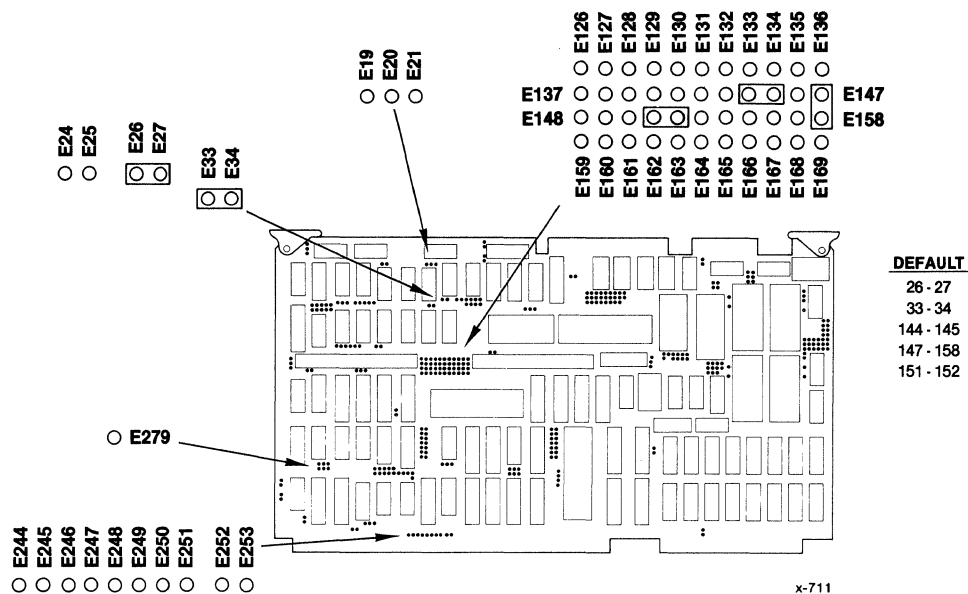

Figure 2-9. Interrupt Stake Pin Locations
The iSBC 86/35 board sends and receives interrupt request signals on MULTIBUS interrupt request lines INT∅/ through INT7/. Refer to Figure 2-9 for the interrupt stake pin locations and default jumpers. Table 2-1∅ lists the stake pin numbers and corresponding functions.
request is called a bus-vectorized (BV) interrupt. In general, a bus-vectorized interrupt should be of lower priority than interrupt requests which are applied directly to the master PIC. The iSBC 86/35 board is configured at the factory to accept either bus-vectorized or non-bus-vectorized (NBV) interrupts. In this mode, the iSBC 86/35 board requests the use of the MULTIBUS interface for all interrupt cycles. To disable the bus vectorized interrupt feature, remove jumper E33-E34 (see Figure 2-9). In this mode, the iSBC 86/35 board does not use the MULTIBUS interface to perform interrupt cycles which means that it can handle only NBV interrupts. Interrupts can still originate from off board, but not from slave PIC's.